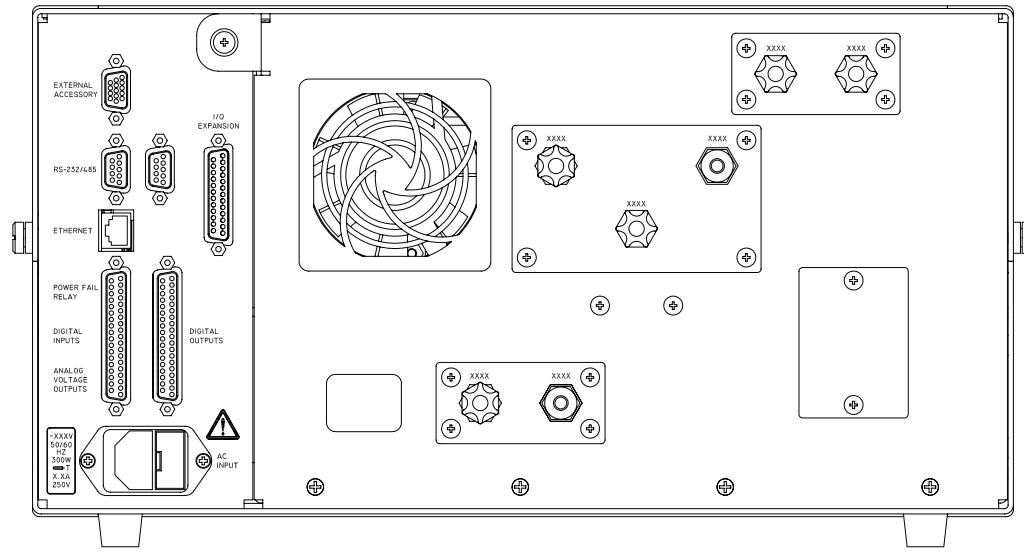

Figure 2-3. Model 49*i* Rear Panel
1. Connect the sample line to the SAMPLE bulkhead on the rear panel (Figure 2-3). Ensure that the sample line is not contaminated by dirty, wet, or incompatible materials. All tubing should be constructed of FEP Teflon®, 316 stainless steel, borosilicate glass, or similar tubing with an OD of 1/4-inch and a minimum ID of 1/8-inch. The length of the tubing should be less than 10 feet.